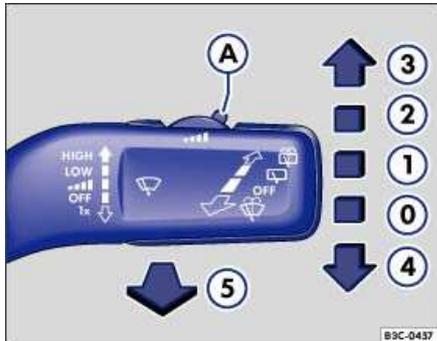

Fig. 44 Windshield wiper and windshield washer switch lever.
- Move the lever up to position (1) ⇒ Fig. 44.
- Move switch (A) to change the wiping interval – to the left to increase the delay and wipe less often for lighter rain; to the right to shorten the delay and wipe more often.
- If wiper speed (2) or (3) (⇒ Fig. 44) is left on when you switch off the ignition, the wipers will come on at the same speed when you switch it on again.